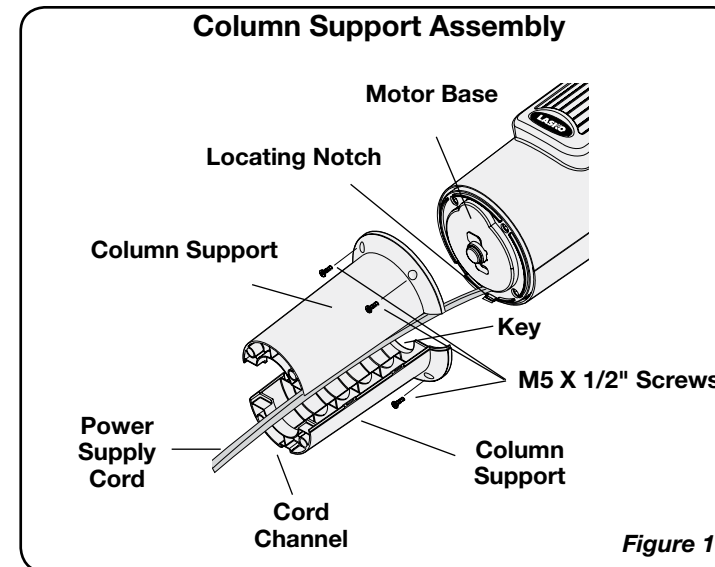

Figure 1
2. Locate the Power Supply Cord at the bottom on the Fan. Place the Power Supply Cord in the Cord Channels of the Column Supports. Snap the Column Supports firmly together to form a Column Support Assembly. (Figure 1)
3. Attach the Column Support Assembly to the Motor Base with (4) 1/2" Long M5 Screws. Make certain to align the Key on the Support Column Assembly with the Locating Notch on the Motor Base. (Figure 1)